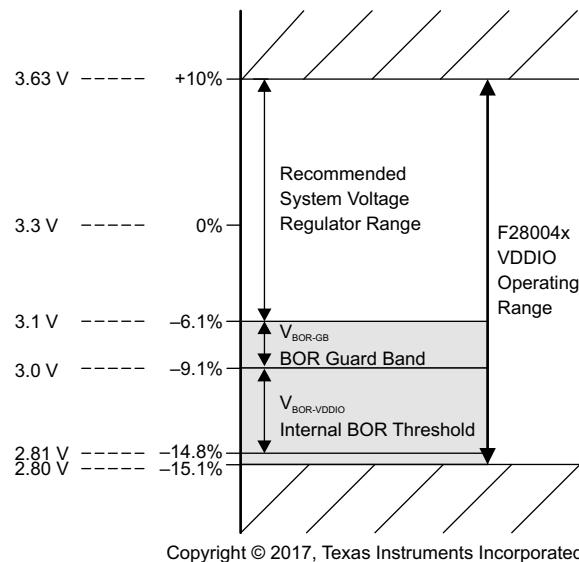

Figure 7-1. Supply Voltages
- (1) Operation above $T_J = 105^\circ\text{C}$ for extended duration will reduce the lifetime of the device. See Calculating Useful Lifetimes of Embedded Processors for more information.
- (2) The VDDIO BOR voltage ($V_{BOR-VDDIO}[MAX]$) in Electrical Characteristics determines the lower voltage bound for device operation. TI recommends that system designers budget an additional guard band (V_{BOR-GB}) as shown in Figure 7-1.
- (3) Internal BOR is enabled by default.
- (4) Supply ramp rate faster than this can trigger the on-chip ESD protection.
- (5) TI recommends V_{BOR-GB} to avoid BOR resets due to normal supply noise or load-transient events on the 3.3-V VDDIO system regulator. Good system regulator design and decoupling capacitance (following the system regulator specifications) are important to prevent activation of the BOR during normal device operation. The value of V_{BOR-GB} is a system-level design consideration; the voltage listed here is typical for many applications.